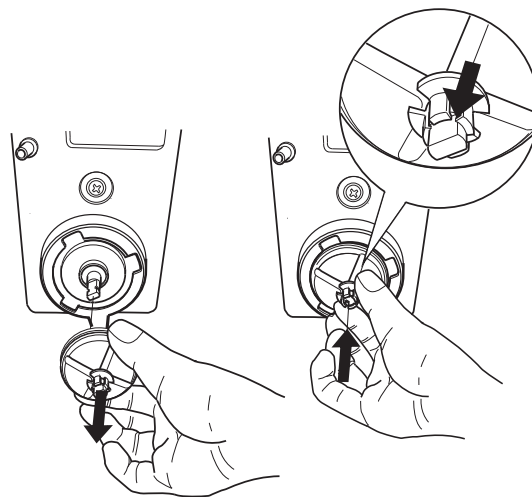

Fig. 10
- The impellers can be removed by simply applying a light traction to let them free (see Fig. 10);